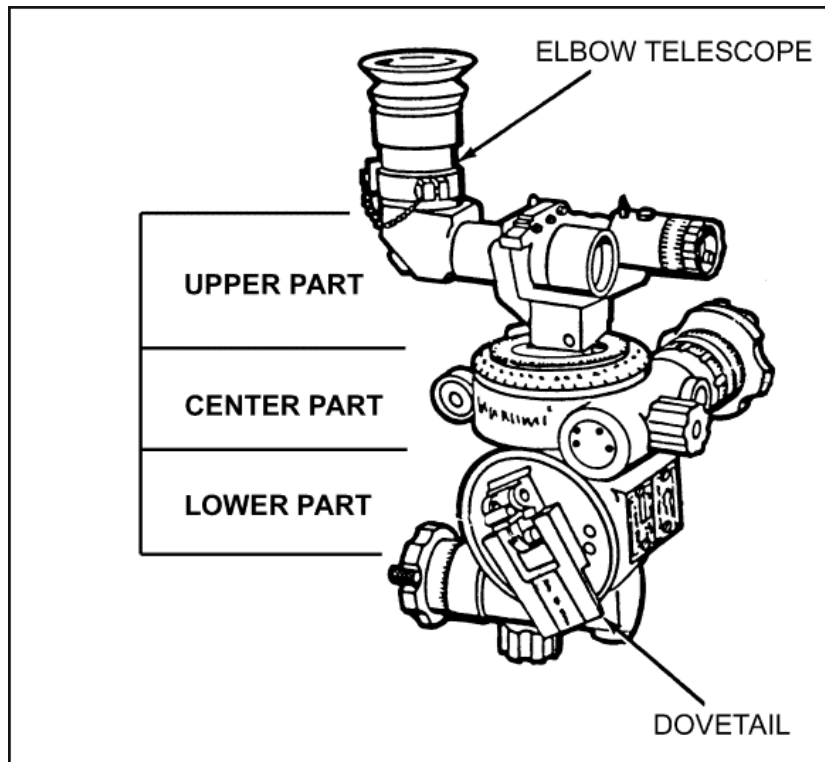

Figure 2-12. Sightunit with elbow telescope, M109.
a. **Elbow Telescope, M109.** The elbow telescope (Figure 2-12) is a lightweight, 4-power, fixed-focus instrument with a 10-degree field of view that provides the optical line of sight for aiming the weapon in azimuth and elevation planes.